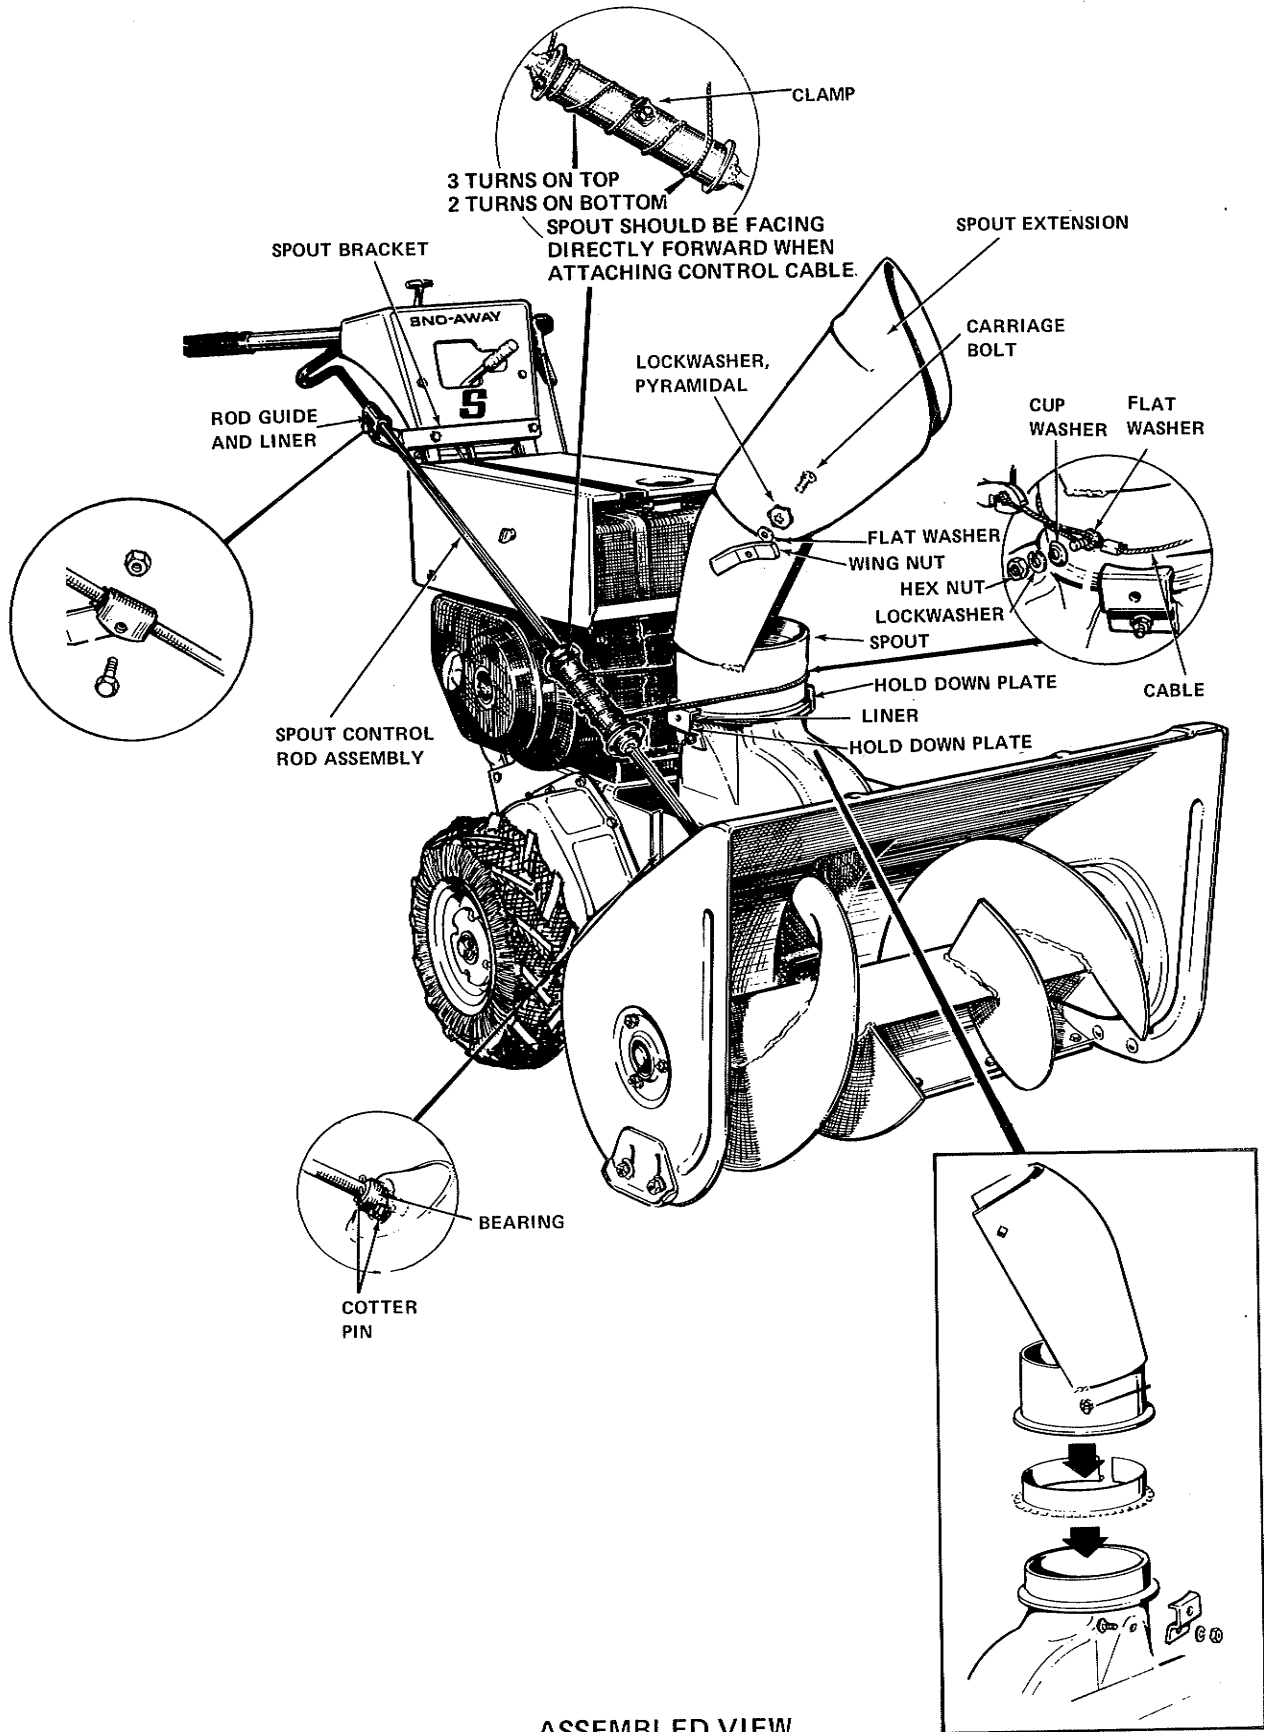

Figure 3.
3. See Figure 3. Place liner on frame outlet and spout on liner. Attach hold down plates and tighten into position.
4. See Figure 3. Attach the spout control rod assembly as follows:
- d. Secure one end of cable to carriage bolt on spout. Refer to insets in Figure 3. Wind remaining cable three turns around control rod tube, through clamp, three times around to other end of tube and back to carriage bolt. Overlap approximately 2-inches of loose end of cable and cut off excess cable. Tape loose end of cable into loop and secure to carriage bolt and flat washer with cup washer, lockwasher and hex nut.
4. See Figure 3. Aline spout extension on spout and attach with carriage bolts on inside, extension to spout with two wing nuts, flat washers, pyramidal lockwashers and carriage bolts.
Electric Start units equipped with Electric Start Kit. See figure 3. Plug one end of the electric cord into the Sno-Away as shown and the other into a 115V wall socket. To crank the engine, use the switch on the cord. Remove cord once engine has started.